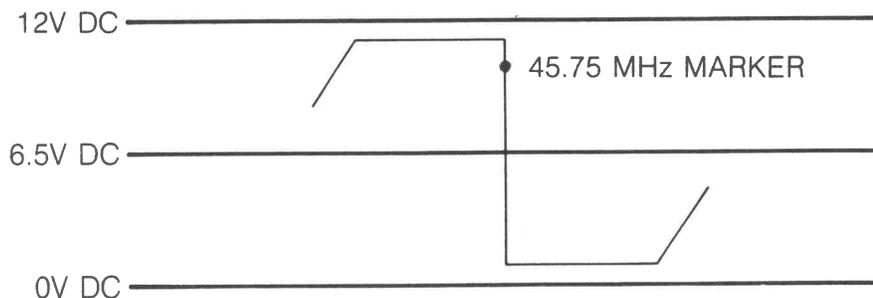

Figure 15
6. Adjust the waveform of the alignment scope to the same as Figure 15 and adjust L171 to position the 45.75 MHz marker to 10.5 \pm 0.5V DC.